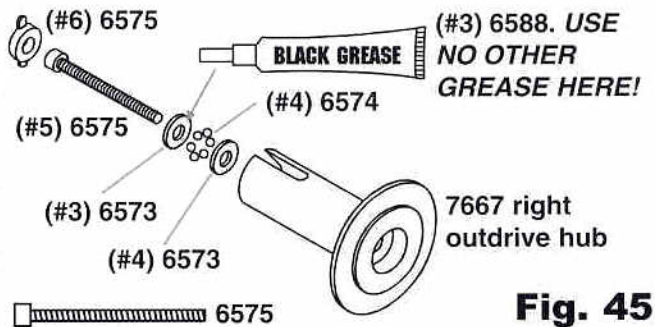

Fig. 45
□ **Fig. 45** (1) Remove the #6575 2-56 diff thrust bolt and two #6573 diff thrust washers and #6574 precision thrust balls shown from two different bags. (2) Locate your 5/64" Allen wrench from the #6950 tool bag. (3) Slide one washer onto the bolt. Apply a generous amount of #6588 black grease to the washer on the side facing away from the bolt head. (4) Stick six balls into the grease against the bolt and washer. Add the other washer. The grease will hold the balls in place during assembly. (5) Insert your Allen wrench into the diff bolt head and slide the assembly into the #7667 right outdrive hub, being careful not to lose any of the balls. (6) Insert the #6575 bolt cover.